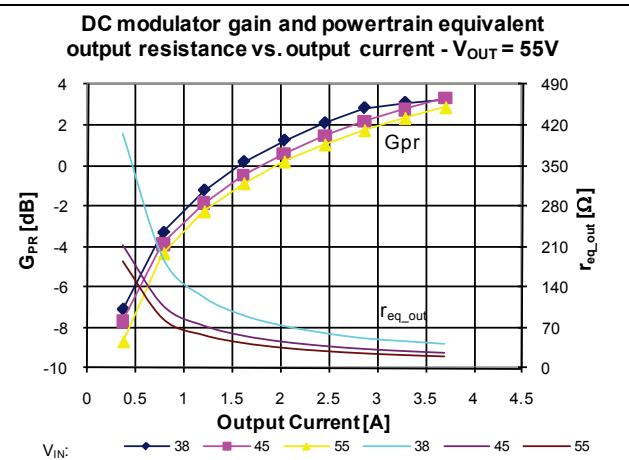

Figure 17 – Powertrain characteristics vs. I_{OUT} ; Resistive load, $V_{OUT} = 55$ V, various V_{IN}
The powertrain small signal (plant) response consists of a single pole determined by the load resistance, the powertrain equivalent output resistance, and the total output capacitance (internal and external to the module). Both the modulator gain and the equivalent output resistance vary as a function of line, load and output voltage, as shown in Figures 17, 18 and 19. As the load increases, the powertrain pole moves to higher frequency. As a result, the closed loop crossover frequency will be the
- Modulator Gain G_{PR} : See Figures 17, 18, 19